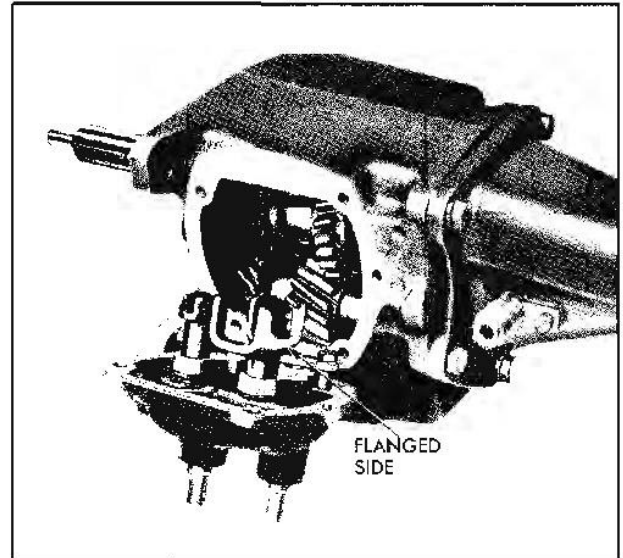

Fig. 7-15 Positioning First and Reverse Shifter Fork in Transmission Side Cover
- NOTE: Flanged side on first and reverse shifter fork must face rear of transmission as shown in Fig. 7-15.*